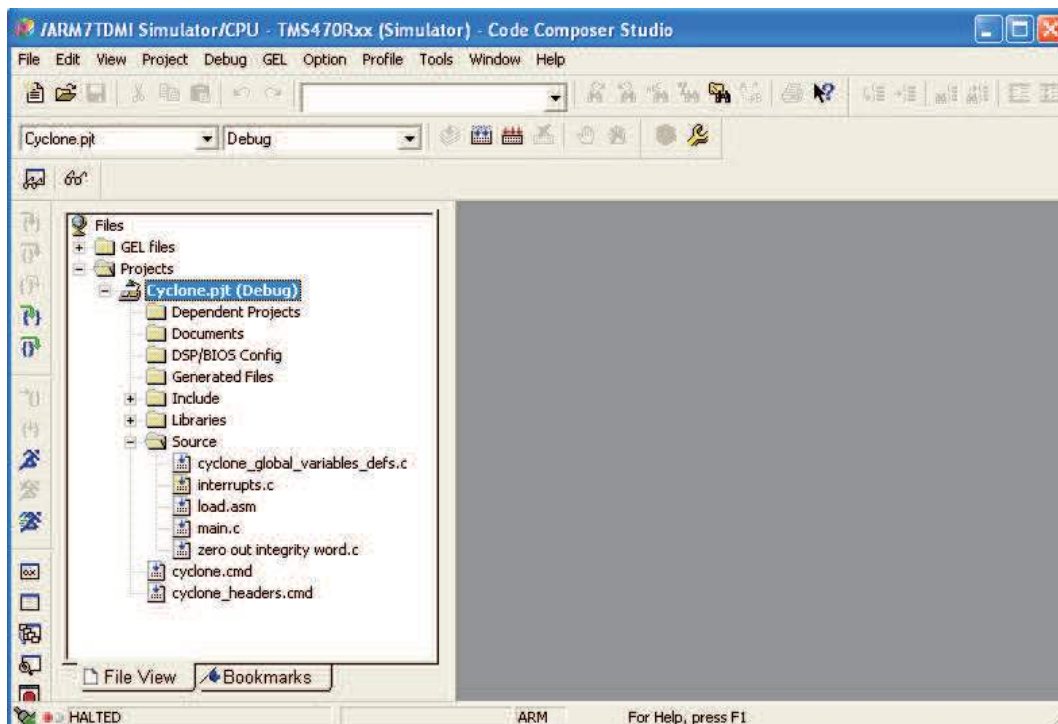

Figure 25. Open a Project File “Cyclone.pjt” – Initial Open
2. Launch CCS and open the CCS project file “Cyclone.pjt” from the directory where “Training 02” was saved. The following window appears shown in Figure 25.